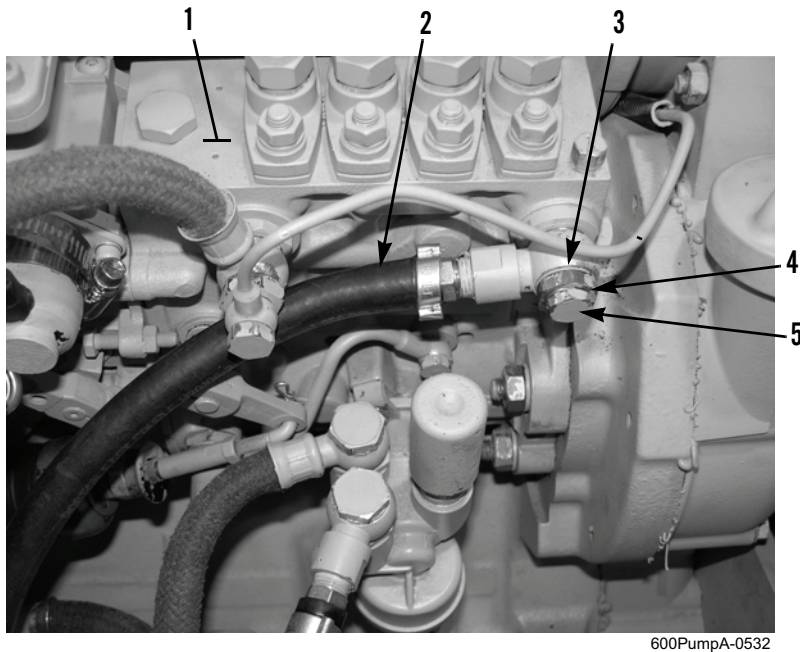

Figure 3. Overflow Hose at Fuel Injection Pump.
3. Install new sealing washer (Figure 3, Item 3), overflow hose (Figure 3, Item 2), new sealing washer (Figure 3, Item 4), and fluid passage bolt (Figure 3, Item 5) on fuel injection pump (Figure 3, Item 1). Tighten fluid passage bolt to 25 to 30 lb-ft (34 to Nm).